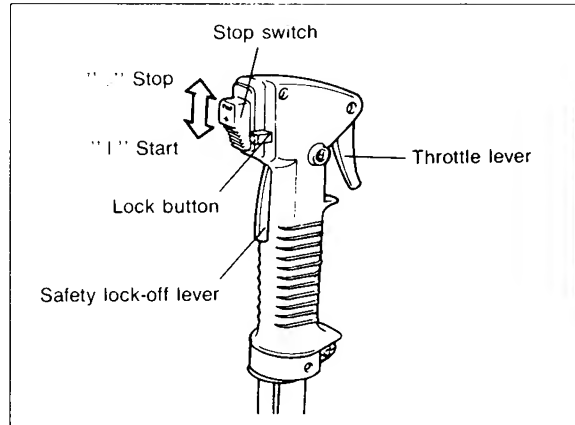

Fig. 16
- 1) Push the stop switch to "START" position. (Fig. 16 and 17)
Press the safety "lock-off" lever and squeeze the throttle lever fully. Then depress the lock button. Release the throttle lever while depressing the lock button. The throttle lever will now be locked in the "start-up" position. (Fig. 16)